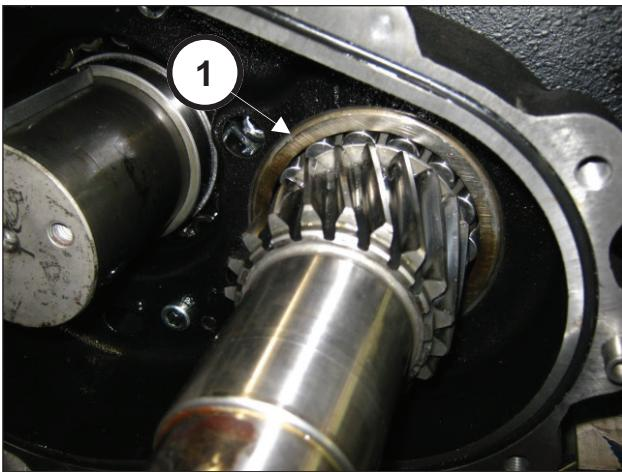

Fig. 65
Position the bearing to end stroke (pos. ①, Fig. 65)